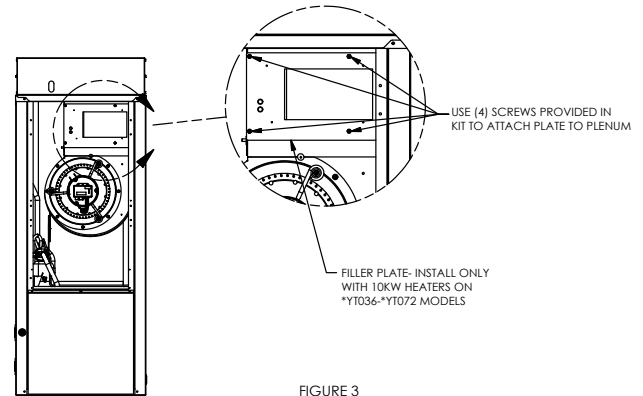

FIGURE 3
6. If installing a 10kW heater on a YT036, YT048, YT060, or YT072 model, first install the filler plate on the plenum. There are (4) #10-16 x 1/2 screws provided in the kit to mount this filler plate. See Figure 3.